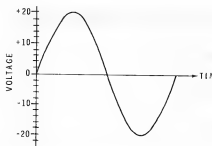

Figure 2-10
- What is the peak voltage of the sine wave shown in Figure 2-10?
- What is the rms voltage of the sine wave shown in Figure 2-10?
- What is the peak-to-peak voltage of the sine wave shown in Figure 2-10? _____
4. The peak voltage of the sine wave shown in Figure 2-10 is 20 volts.
5. The rms voltage of the sine wave shown in Figure 2-10 is:
6. The peak-to-peak voltage of the sine wave shown in Figure 2-10 is 40 volts.